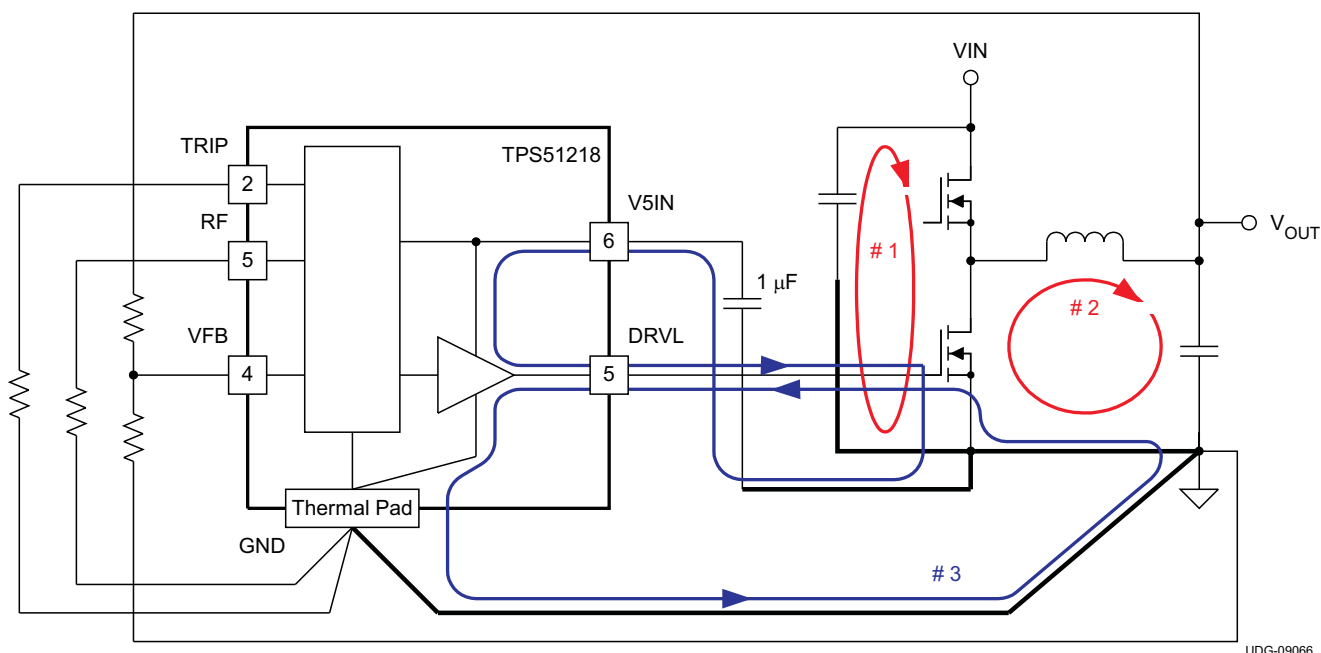

Figure 19. Ground System of DC/DC Converter Using the TPS51218
- The most important loop to minimize the area of is the path from the V_{IN} capacitor(s) through the high and low-side MOSFETs, and back to the capacitor(s) through ground. Connect the negative node of the V_{IN} capacitor(s) and the source of the low-side MOSFET at ground as close as possible. (Refer to loop #1 of Figure 19)
- The second important loop is the path from the low-side MOSFET through inductor and V_{OUT} capacitor(s), and back to source of the low-side MOSFET through ground. Connect source of the low-side MOSFET and negative node of V_{OUT} capacitor(s) at ground as close as possible. (Refer to loop #2 of Figure 19)
to negative node of the capacitor through ground. To turn off the low-side MOSFET, high current flows from gate of the low-side MOSFET through the gate driver and GND pad of the device, and back to source of the low-side MOSFET through ground. Connect negative node of V_{5IN} capacitor, source of the low-side MOSFET and GND pad of the device at ground as close as possible. (Refer to loop #3 of Figure 19)